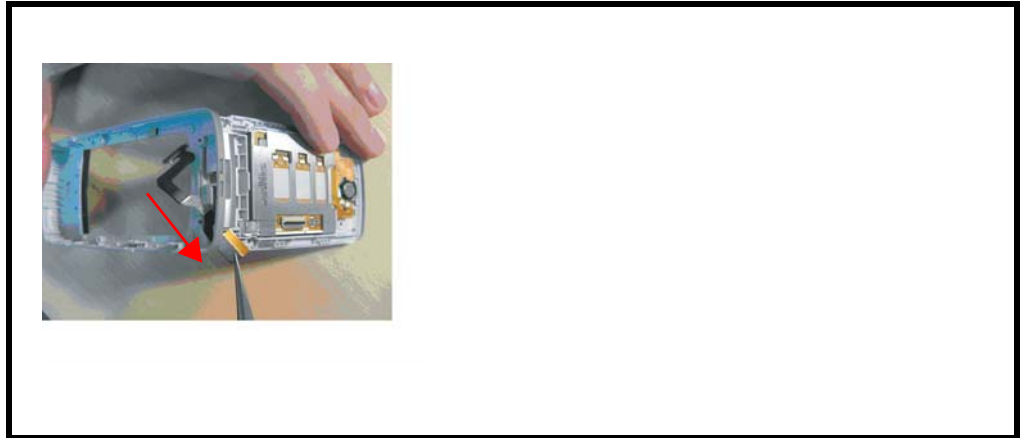

Figure 36. Replacing FPC
5. Insert the BTB-FPC through the hole as shown in Figure 36.